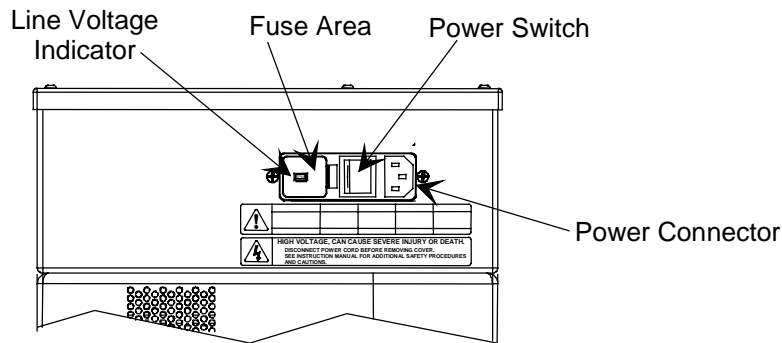

Figure 9: Components of the Power Module
Refer to Figure 9 for the location of the power switch.
3. Use a small flat head screwdriver to flex the fuse holder clip so that the holder pops up, then remove the holder. Refer to Figure 9 for the location of the fuse holder.